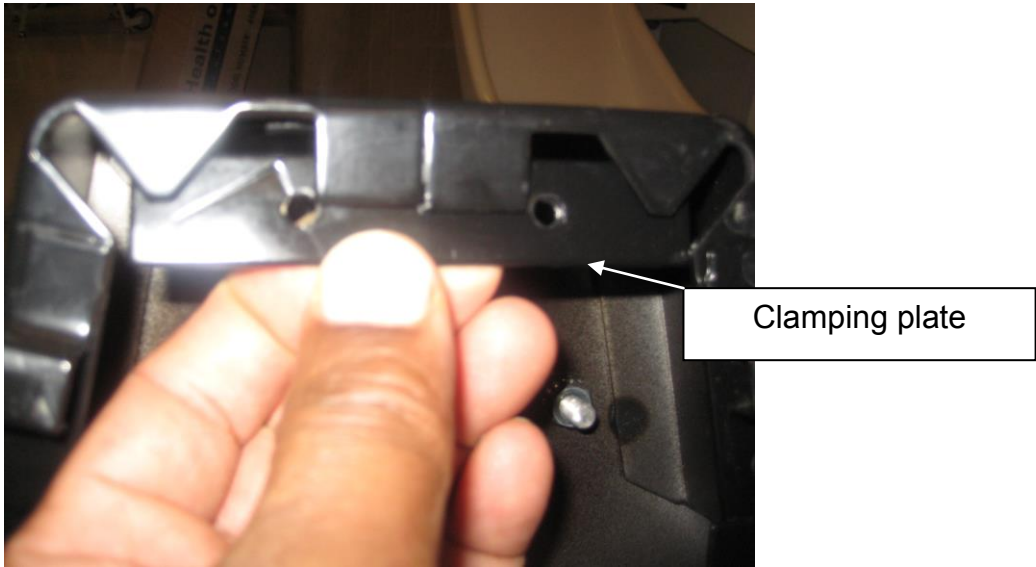

Figure 9
3. Position the clamping plate inside the base, and align the clamping plate, wheel bracket, and base assembly holes. (See Figure 9 on page 12)